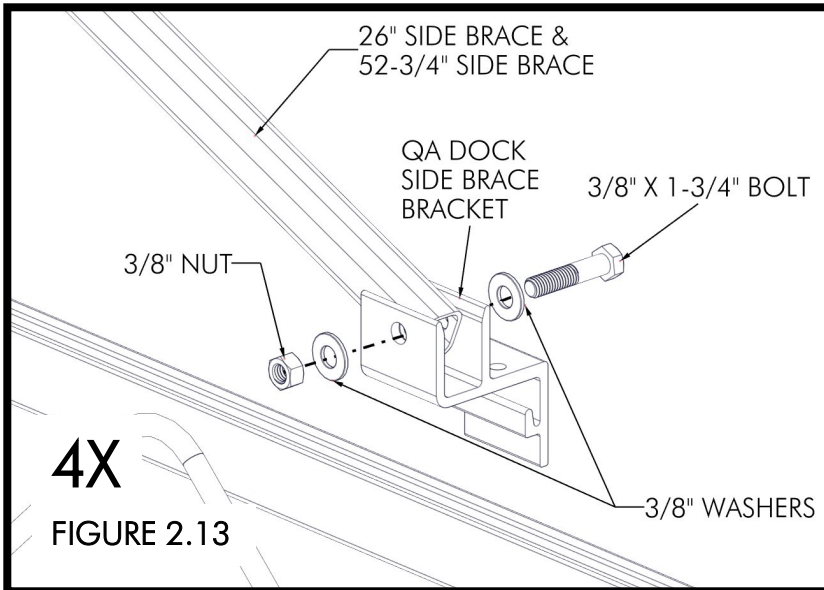

FIGURE 2.13
ATTACH THE ENDS OF THE 26" AND 52-3/4" SIDE BRACES TO THE DOCK SIDE BRACE BRACKET USING (1) 3/8" X 1-3/4" BOLT, (2) 3/8" WASHERS, AND (1) 3/8" NUT PER BRACKET (FIGURE 2.13). THE BRACE BRACKETS ARE ATTACHED TO THE DOCK BY PLACING THEM INTO THE DOCK SIDE (FIGURE 2.14). INSERT (2) 3/8" X 1" BOLTS INTO THE BOTTOM OF THE BRACKET (FIGURE 2.15).